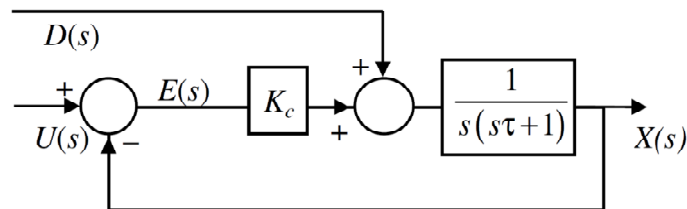

Figure 6.1 System with proportional-only control having both set-point and disturbance inputs.
6. The system in Figure 6.1 shows a system with a proportional controller in the forward path. The system has a set point input $U(s)$ and is also subject to a disturbance $D(s)$, which is summed with the control signal. Because it is a linear system the overall response can be treated with the principle of superposition of inputs.